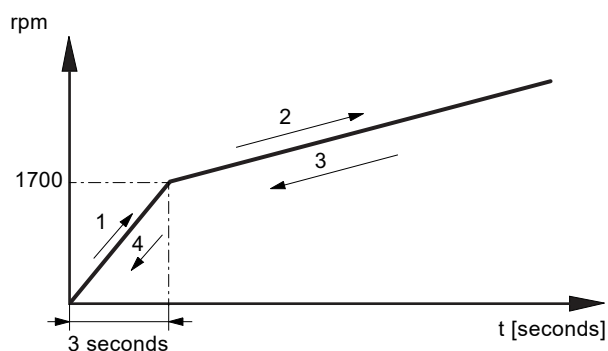

Fig. 4 Ramp down
1. Ramp down the BMS hs pump (6) according to the factory settings. See fig. 4 (3 and 4).